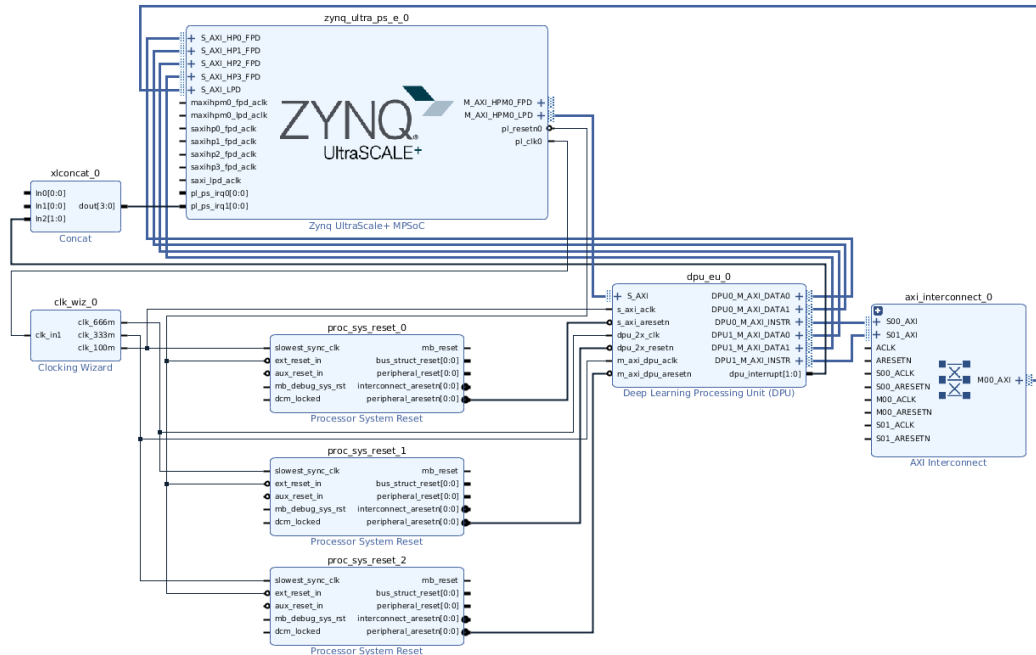

Figure 22: Connect DPU with PS of MPSoC
You can connect the DPU to a processing system (PS) with any kind of interconnections. You must ensure the DPU can correctly access the DDR memory space. Generally, an AXI data transaction passes an Interconnect IP, the delay of data transaction will increase. The delay of the data transmission between the DPU and the Interconnect will reduce the DPU performance. Therefore, Xilinx recommends that each data fetch master interface in the DPU connects to the PS through a direct connection rather than through an AXI Interconnect IP. The reference connection between the DPU and PS in the Xilinx UltraScale+ MPSoC is shown as Figure 22.